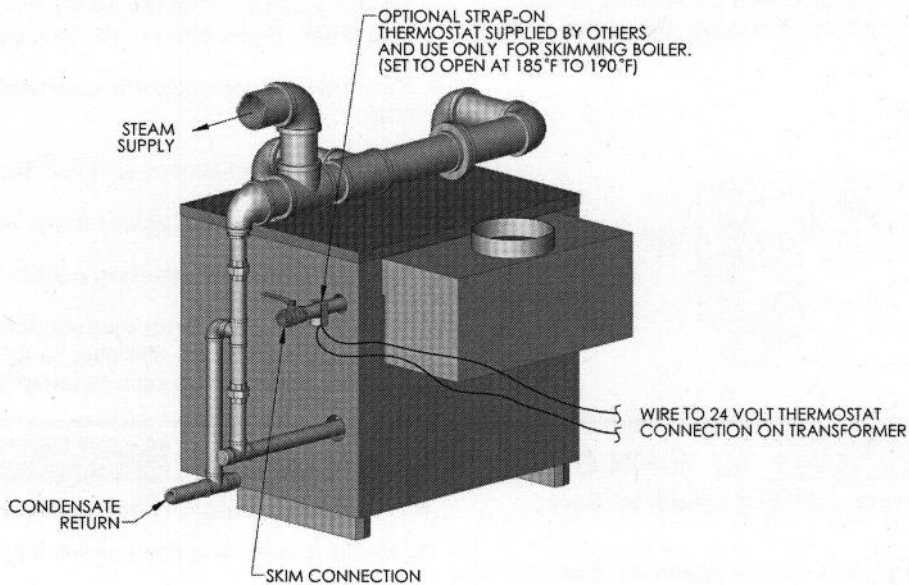

Figure 8.2: Skim Piping
**NOTE: An optional strap on thermostat can be mounted as shown in Figure 8.2. Temporarily wire to 24 volt thermostat connection. Refer to Figure 7.1 for details. This will operate boiler for skimming operation only.**